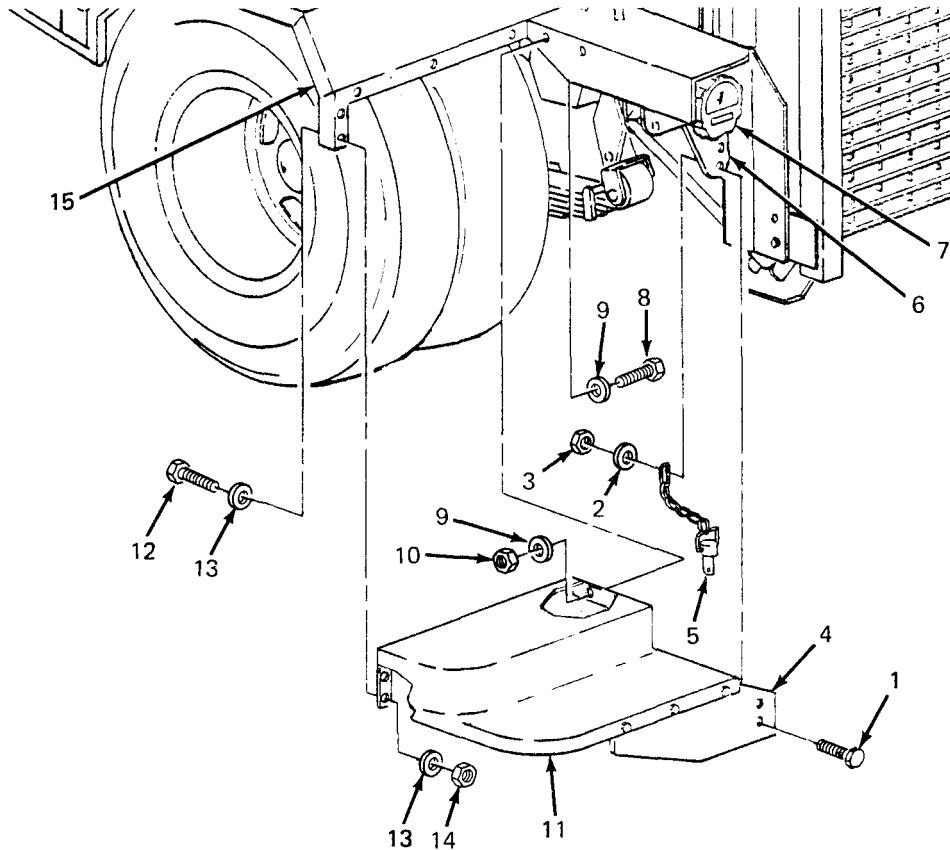

Figure 4-9. Rear Steps Replacement.
- (10) Install accessory box (paragraph 4-18, b).
- (11) Install fuel can brackets (paragraph 4-17, b).
**4-21. Rear Steps Replacement.** (See figure 4-9.) The roadside and curbside rear steps are symmetrical, and replacement procedures are the same for each.
- (1) Remove two screws (1, figure 4-9), two flat washers (2) and two nuts (3) securing rear step bracket (4) and platform anchor (5) to trailer frame (6) under taillight (7).